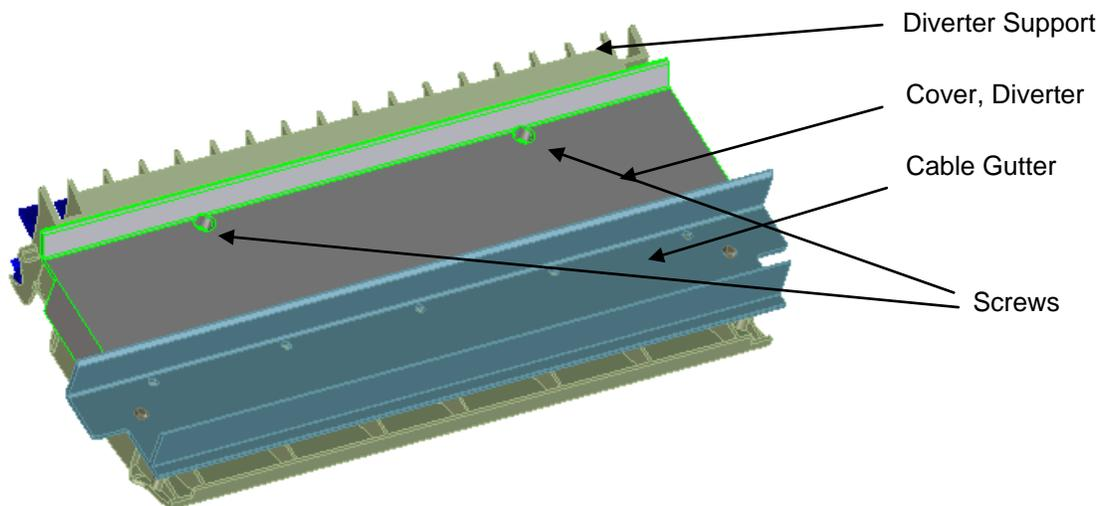

Figure C-3. Location of Diverter Cover and Diverter Support
- 5) Unscrew the two (2) screws on the left and right side of the *Diverter Cover* (see Figure C-3). Use the Torx T10 Driver.